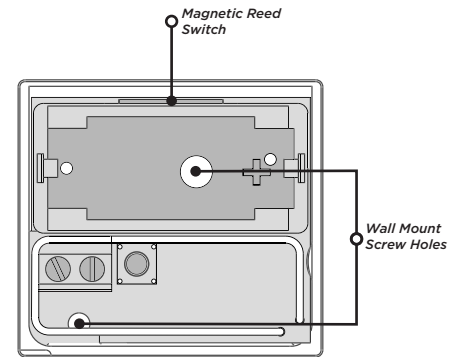

Figure 2: Transmitter Components
2. Hold the transmitter in place with the magnetic reed switch closest to where the magnet will be mounted. See Figure 2. Ensure the transmitter and the magnet will be no more than 1/2" (1.3cm) apart.